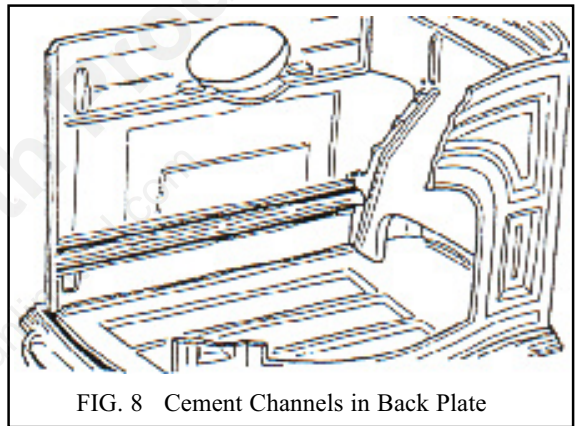

FIG. 8 Cement Channels in Back Plate
*Cement along the top of the upper rib and the front of the lower rib on the Back Plate (FIG. 8)*